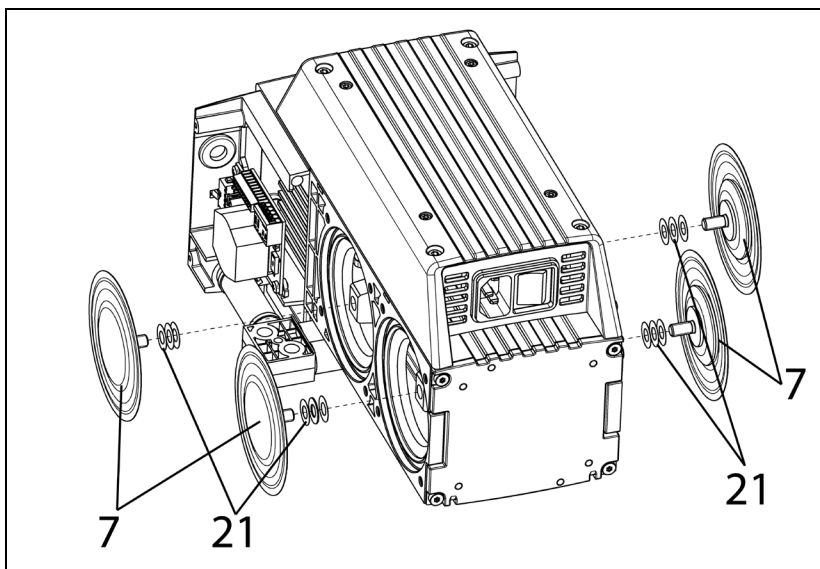

Fig. 17: Replacing the diaphragm
1. Manually remove the both diaphragms (Fig. 17/7) by turning them in the counterclockwise direction.
2. Manually screw the new diaphragms (Fig. 17/7) into the connecting rods' threads and tighten to hand tightness.